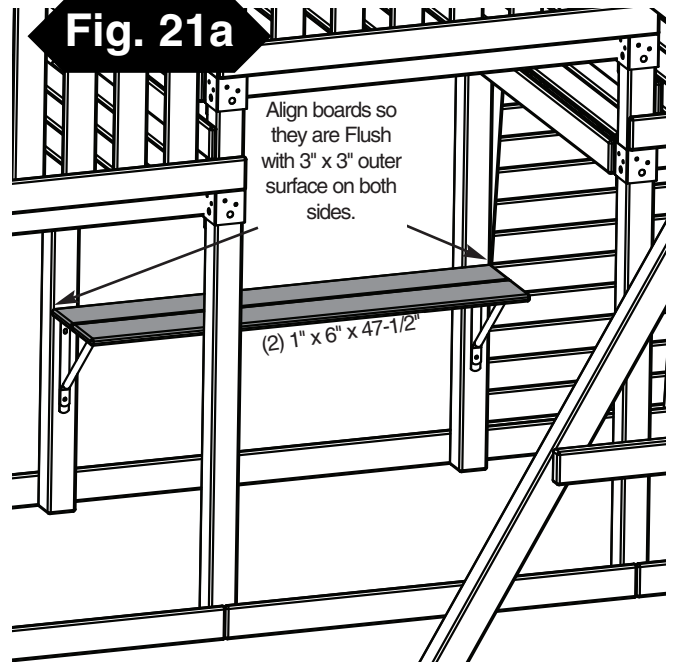

Fig. 21b
3. Attach Picnic Table Support centered underneath the Picnic table and attach Table Supports as shown in **(Fig. 21b)**.